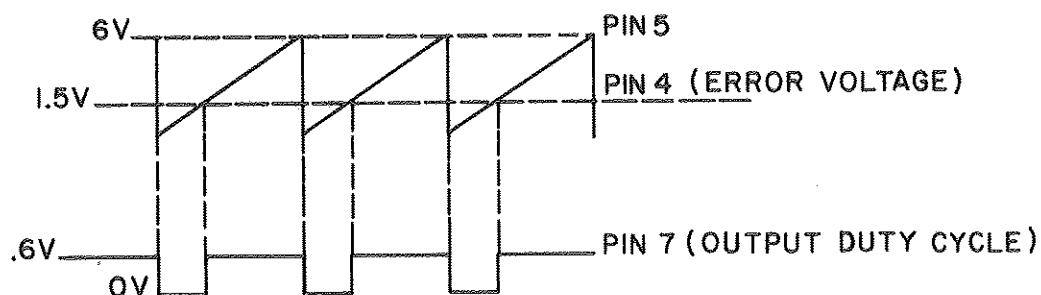

Figure 2. Error Voltage Waveform
The output to Q2 base is a square wave of variable duty cycle as determined by load demand. The internal transistor is open collector and is pulled up by R4. Whenever the internal transistor is turned on, it shunts the base current away from Q2 and turns Q2 off. Conversely, when the internal transistor is off, R4 then biases Q2 on. The duty cycle is set by comparing the output of the error amplifier Pin 4 of U1 to a sawtooth waveform at Pin 5 of U1. The sawtooth waveform is generated by the charging up of capacitor C6, using R3 as the charging resistor. R3 is in turn connected to the regulated 8.2 VDC available at Pin 2 of U1. Figure 2 shows the effect of the error voltage on the output duty cycle.
2. Pin 5: triangular waveform (see Figure 2)